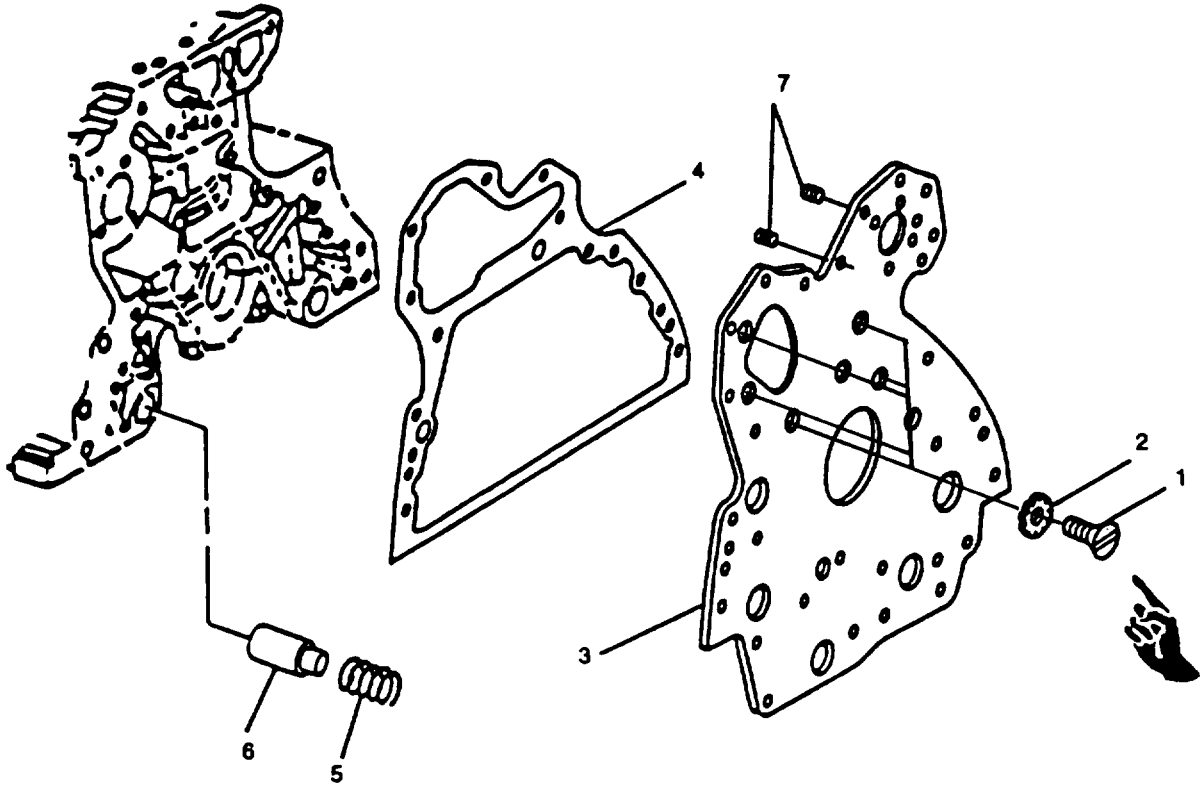

FIGURE 3-117. Front Plate
- g. Remove five screws (1, FIGURE 3-117) and lockwashers (2) securing front plate (3); remove front plate (3) and gasket (4). Discard gasket (4) and lockwashers (2).
- h. Remove oil bypass valve (6) and spring (5).
- i. If new front plate (3) is to be installed, remove setscrew plugs (7). Discard plugs.
**Apply sealing compound (LOCTITE 242) to threads of studs and setscrew plugs (7, FIGURE 3-117) before installing in front plate.**
- a. Install mounting studs in appropriate location on front plate for your pump application. Install setscrew plugs (7) in threaded holes not used for mounting studs.
- a. Install oil bypass valve (6, FIGURE 3-117) and spring (5) in engine block bore.
- b. Apply a light coating of sealing compound (FORMAGASKET2) to engine block side of new gasket (4).
- c. Install gasket (4) and front plate (3).
- d. Secure front plate (3) with five screws (1) and new lockwashers (2). Tighten screws to 25 ft-lbs (34 Nm).